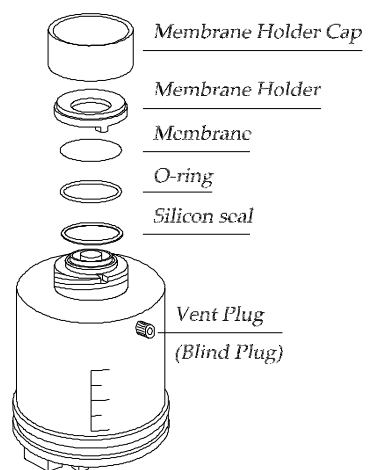
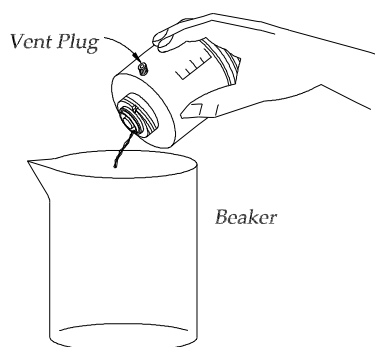

Fig. 4.2.3
Fig. 4.2.4a
5. Turn the gas sensor upside down; unscrew the membrane holder cap (fig.4.2.3). Remove and dispose the O-ring and membrane. Allow the electrolyte to drain out. Unscrew the vent plug (fig. 4.2.4a & 4b) if the electrolyte does not drain readily.